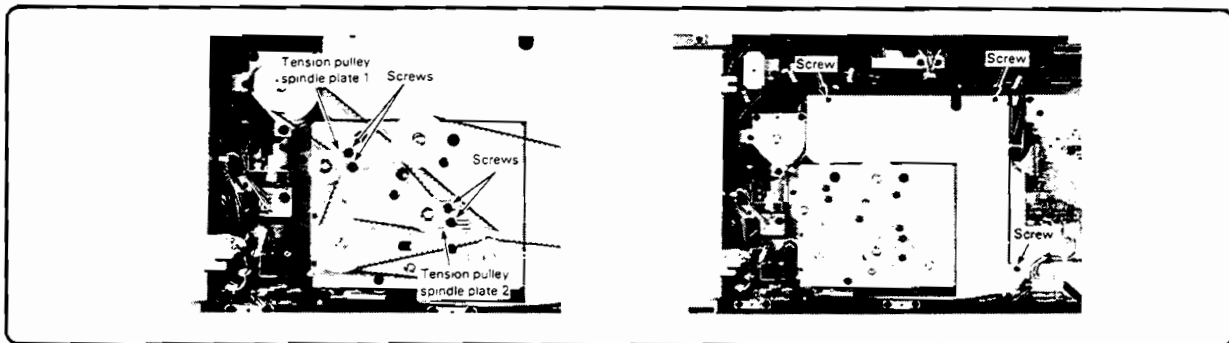

Figure 6-167. Drive Belts and Inner Panel
2. Loosen the two screws, move the tension pulley spindle plates 1 and 2, and remove drive belts 1 and 2 (Figure 6-167).
3. Remove the three screws, and remove the rear inner panel (Figure 6-167).